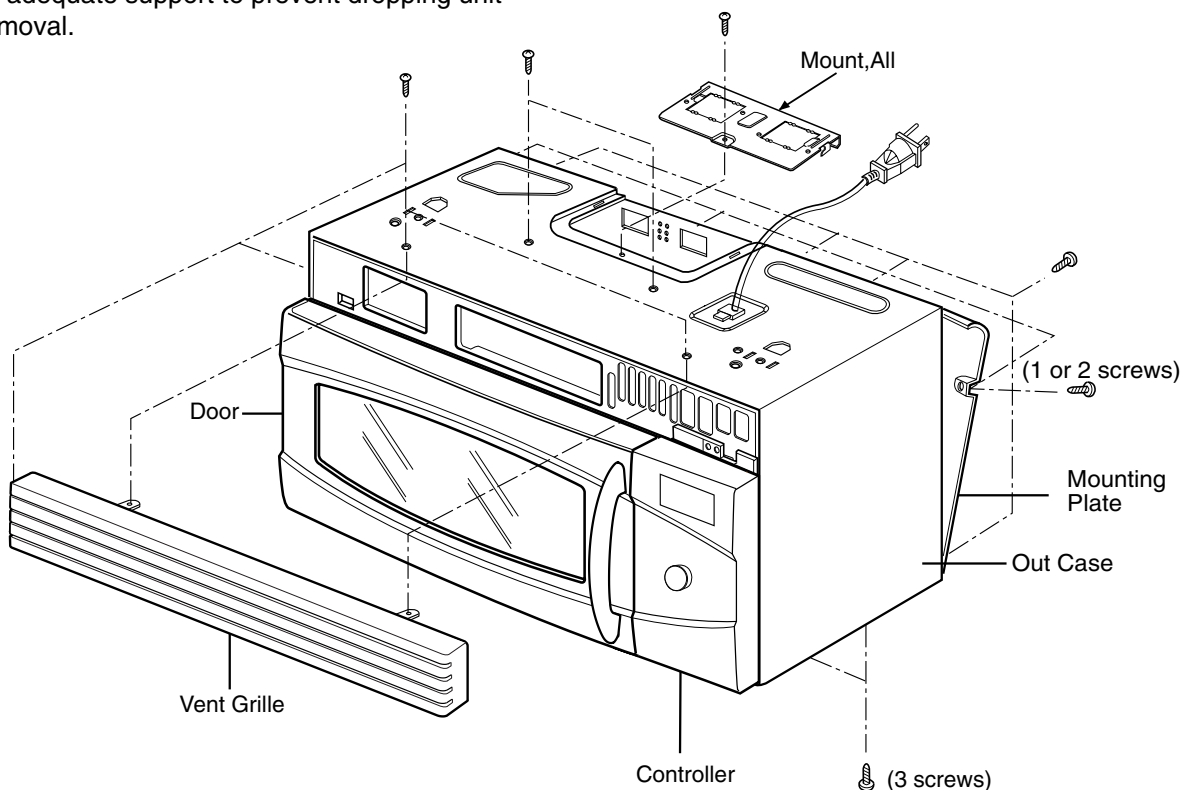

Figure 8
2. Remove (3) top cabinet bolts while supporting unit.
C. REMOVING THE OUT CASE(Figure 8)
- (1) Remove the vent grille by removing two screws securing it to the out case.
- (2) Remove two screws securing it to the air duct.
- (3) Remove the base plate by removing four screws securing it to the out case. Remove the Mount, All from the out case by removing two screws securing it to the out case.
- (4) Remove four screws from the rear section.
- (5) Remove the outcase with pushing it back.
- (6) Remove the outcase with disconnecting power cord connector.